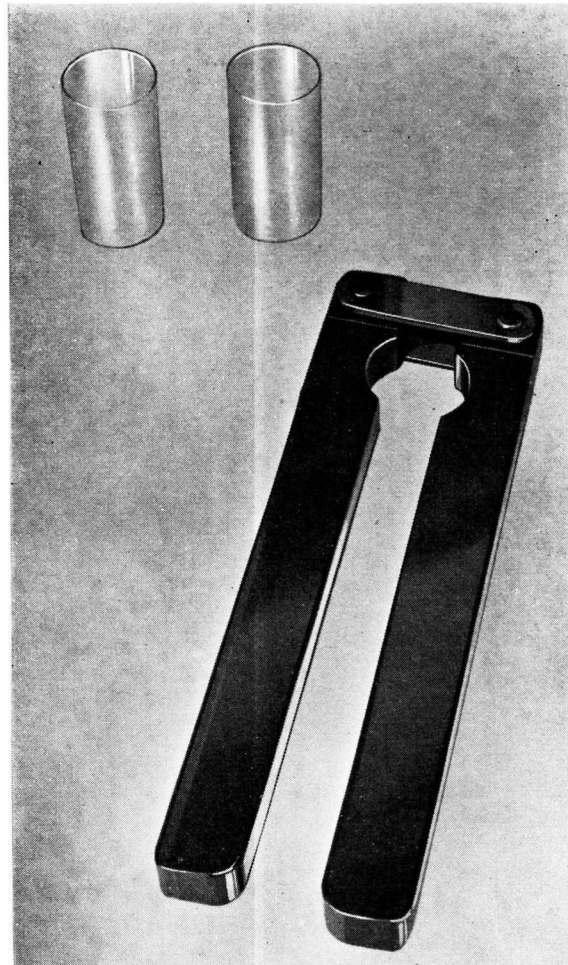

Fig. 6. Fibre grips and test tubes
9. The charged cylinder should be completely immersed, cap upwards, in a tank of clean water. The threads of the cap should be lightly brushed with a fine brush to remove any air bubbles. A glass test tube (fig. 6) completely filled with water should then be placed over the neck of the cylinder.